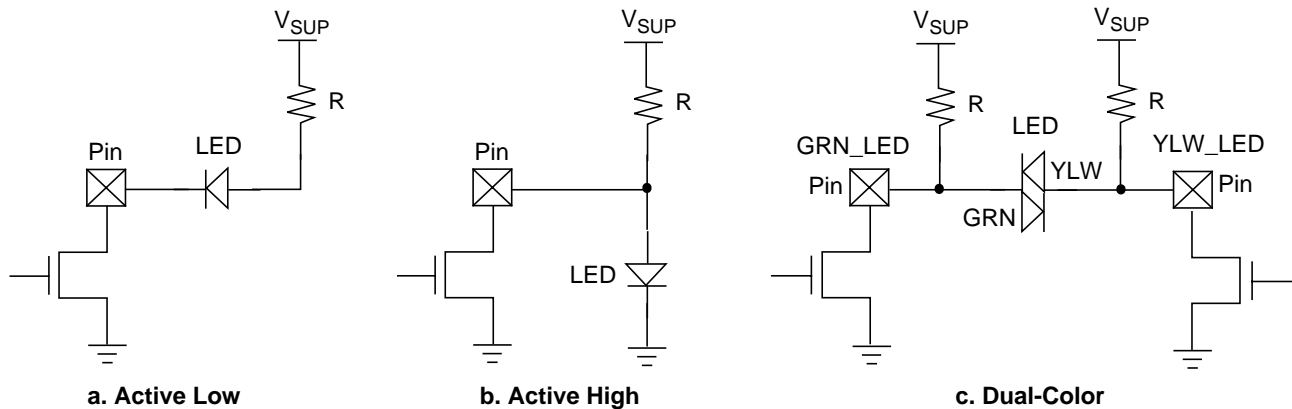

Figure 16. LED Connection Configurations
The LEDs can be connected to PC87373 using one of the configurations shown in Figure 16.
The Standard LED control is the default LED control option when  $V_{BAT}$  pin is connected to ground ( $V_{SS}$ ). Two regular LEDs must be connected to the GRN\_LED and the YLW\_LED pins, according to configuration “b” (Active High) in Figure 16.
Table 34 on page 89 shows the states of the GRN\_LED and YLW\_LED pins. The LEDs are connected according to configuration “b” (see Figure 16); therefore, a LED is on when the pin is TRI-STATEd and off when the pin is at low level (0).
In the Advanced LED control option, one dual-color LED or two regular LEDs can be connected to the GRN\_LED and the YLW\_LED pins, using any of the configurations shown in Figure 16. LEDCFG and LEDPOL bits in ALEDCTL register (at offset 02h; see Section 6.3.4 on page 91) must be set to reflect the connection configuration of the LEDs.
LEDCFG bit selects either configurations “a” and “b” (two regular LEDs are connected between each pin and ground or  $V_{SUPP}$ ) or configuration “c” (one dual-color LED is connected between the GRN\_LED and YLW\_LED pins). LEDPOL bit selects the polarity of the On state at both pins (GRN\_LED and YLW\_LED). Table 32, shows the value of LEDCFG and LEDPOL bits for each LED connection configuration in Figure 16, and also the state of the GRN\_LED and YLW\_LED pins for which the LED(s) are On.
The Special LED control is the default LED control option when a Lithium backup battery is connected to  $V_{BAT}$  pin ( $V_{BAT} > V_{BATLOW}$ ). Two regular LEDs must be connected to the GRN\_LED and the YLW\_LED pins, according to configuration “b” (Active High) in Figure 16.
Table 36 on page 92 shows the states of the GRN\_LED and YLW\_LED pins. The LEDs are connected according to configuration “b” (see Figure 16 on page 85); therefore, a LED is On when the pin is TRI-STATEd; it is Off when the pin is at low level (0).